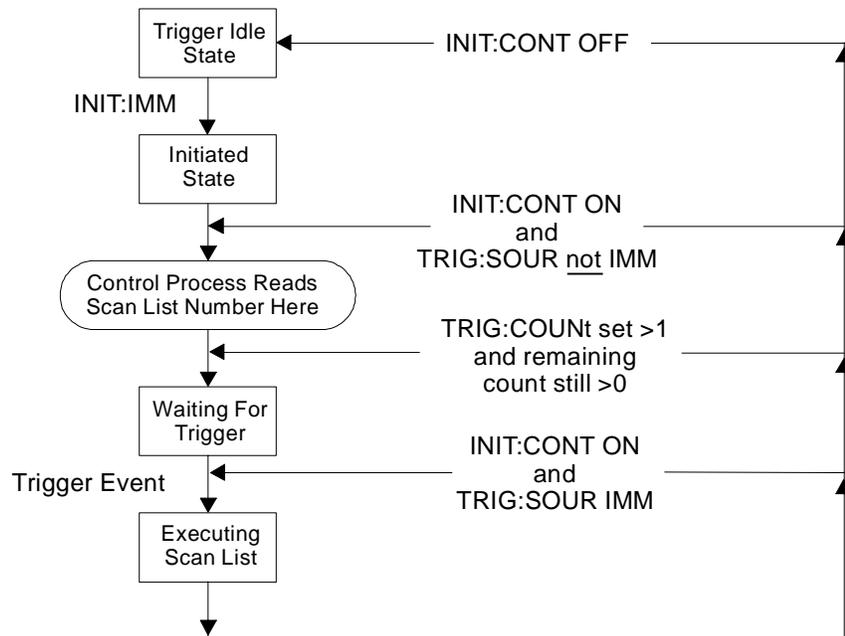

Figure 3-3. Event Sequence for ROUTe:SCAN
- ROUTe:SCAN is not sequence sensitive. It can be executed at any time, even while the module is scanning. Normally, the specified scan list number becomes effective when the trigger system moves from the initiated state to the waiting-for-trigger state. If ROUTe:SCAN is executed after this point, it will become effective for the next scan. If INITiate:CONTinuous is ON and TRIGger:SOURce is IMMEDIATE, ROUTe:SCAN will generate an error. See Figure 3-3.